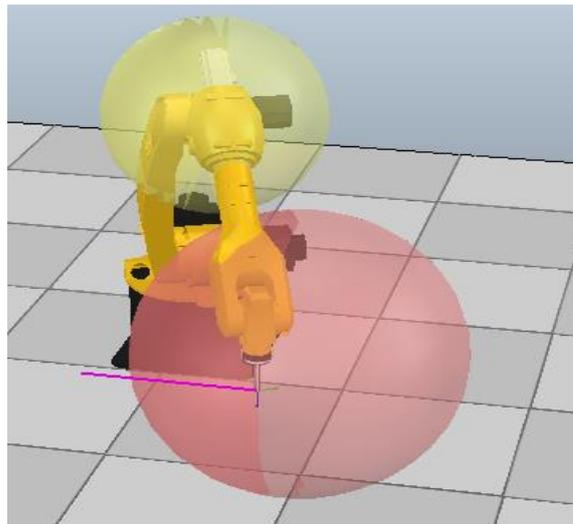

Figure 6-83 When the robot is in the stop buffer or prohibited zone
Step5. After clearing the warning message in Figure 6-84, power on and continue to control the robot to move outside the prohibited zone (see Figure 6-83). When the J5 "Axis Envelope" boundary is detected to already enter the prohibited zone, the warning message shown in Figure 6-85 will appear. After clearing the warning message,
Step6. When the robot is already in the stop buffer or prohibited zone (see Figure 6-83), if you want to move the robot out of the zone, you should keep in mind: when the enable of the prohibited zone is not canceled, it is not allowed to move the robot through running the program in T1 mode, otherwise the system will send a warning; it is only allowed to move the robot through manual JOG. In T2 and AUT modes, it is not allowed to move the robot in any way, otherwise the system will send a warning; when the enable of the prohibited zone is canceled, it is allowed to move the robot out of the zone through manual JOG and running the program.